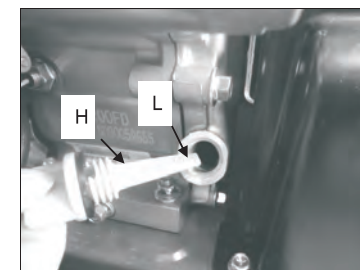

Fig. 19B
9.5.2 Remove the oil cap/dipstick and wipe it clean. (Fig. 19B)
9.5.3 Insert the oil cap/dipstick into the oil filler neck as shown, but do not screw it in, then remove it to check the oil level. (Fig. 19B)
9.5.4 If the oil level is near or below the lower limit mark on the dipstick, remove the oil cap/dipstick, and fill with the recommended oil to the upper limit mark. Do not overfill. (Fig.19B)